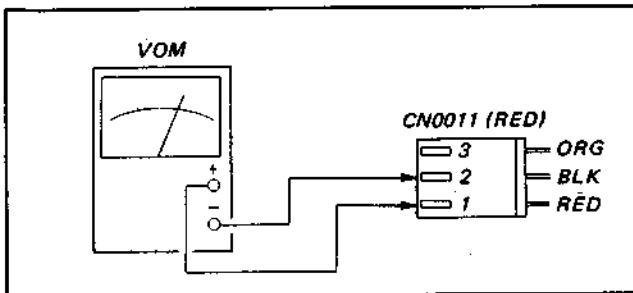

Fig. 4-1-3.
- (1) Remove CN0011 off the FS-6 board and CN7004 off the TM-11 board.
- (2) Connect the VOM at the point shown in Fig. 4-1-3.